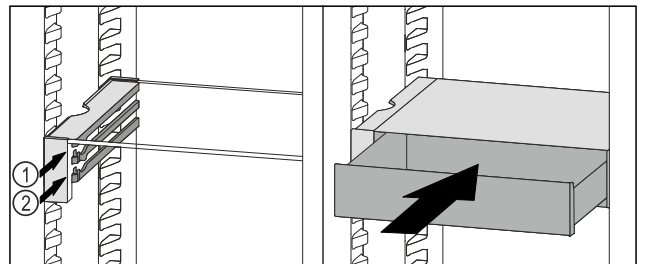

Fig. 70
- ▶ Place the VarioSafe drawer behind the stoppers on desired rib Fig. 70 (1) or Fig. 70 (2).